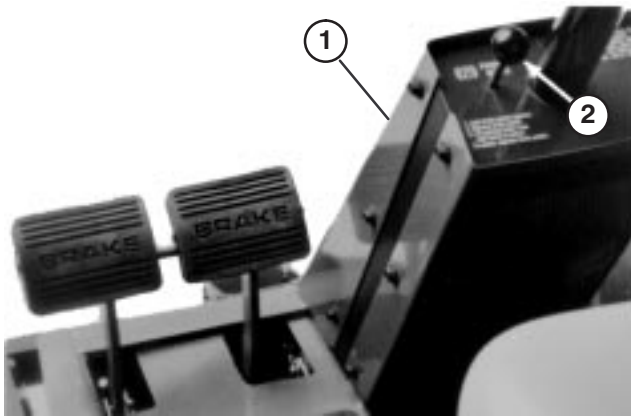

Figure 41
2. Remove (6) screws securing front steering tower cover to frame and remove cover (Fig. 41).